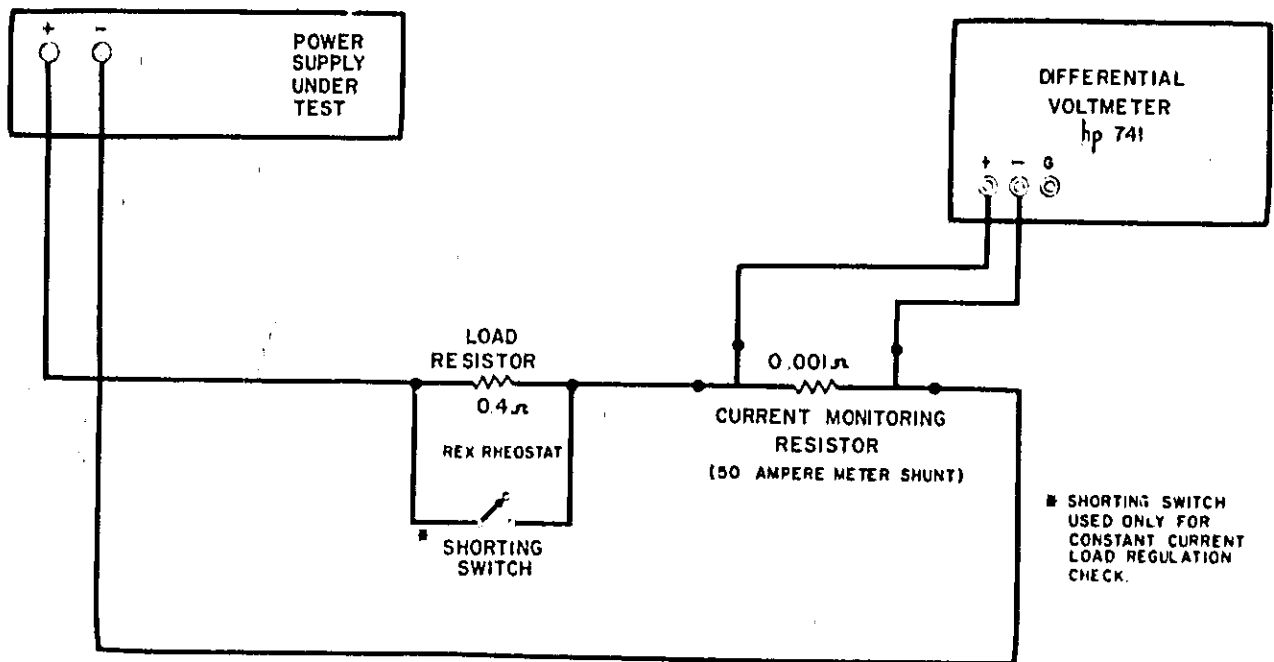

FIGURE 5-3 CONSTANT CURRENT TEST-SETUP
- a. Connect test setup shown in figure 5-3.
b. Connect test setup shown in figure 5-3.